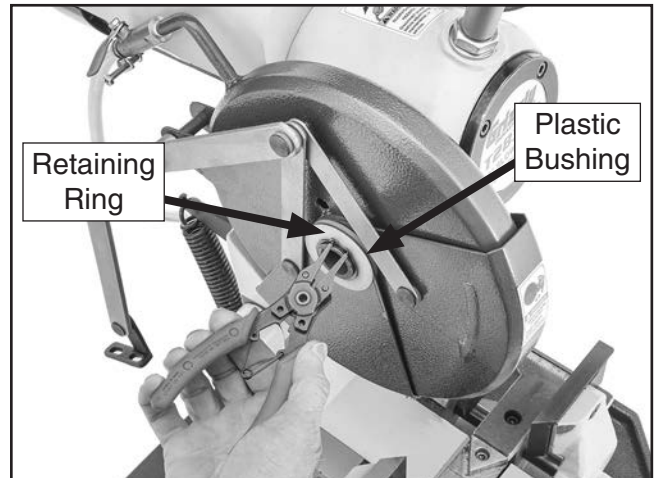

Figure 32. Removing retaining ring.
4. Remove retaining ring from retractable guard hub (see **Figure 32**) to provide clearance to remove/install blade. DO NOT remove plastic bushing from hub.